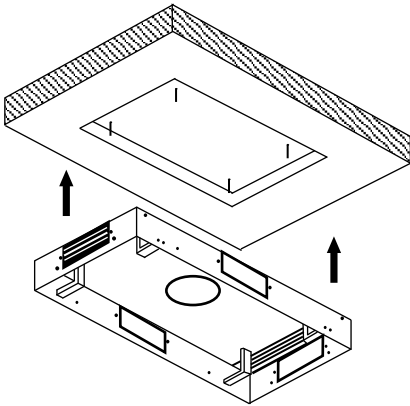

Fig 11
8. Align the fixings to the holes on the hood and tighten bolts to fix the hood to the bulkhead (Fig 11).